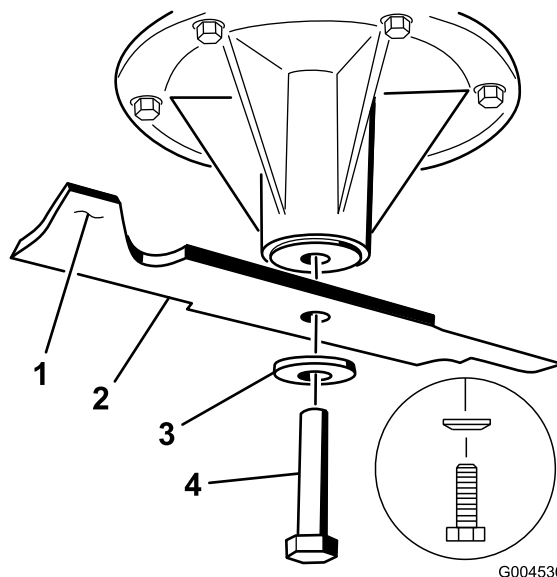
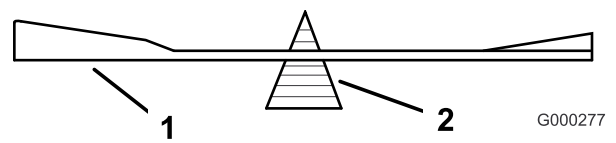

Figure 56
Figure 59
2. For 40 and 48 inch mower decks, remove the blade bolt, curved washer, and blade from the spindle shaft (Figure 56).
1. Install the blade onto the spindle shaft (Figure 56).
Important: The sail part of the blade must be pointing upward, toward the inside of the mower to ensure proper cutting (Figure 56).
2. For 40 inch and 48 inch mower decks, install the blade, curved washer, and blade bolt (Figure 56).
2. Check the balance of the blade by putting it on a blade balancer (Figure 59). If the blade stays in a horizontal position, the blade is balanced and can be used. If the blade is not balanced, file some metal off the end of the sail area only (Figure 56). Repeat this procedure until the blade is balanced.